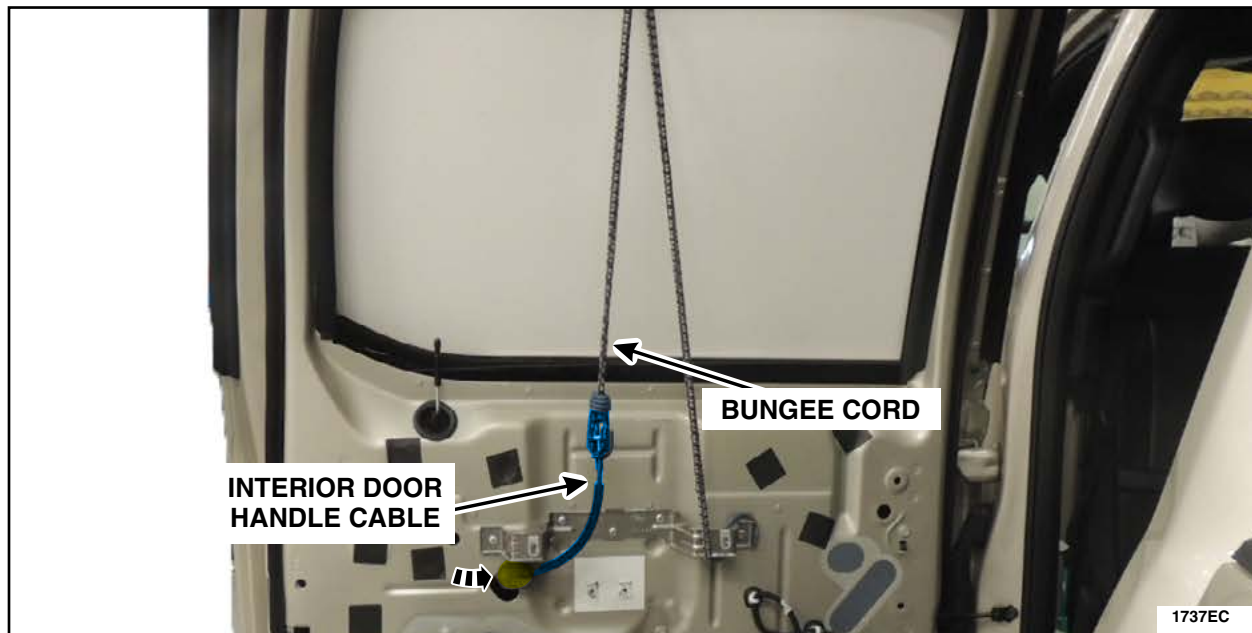

FIGURE 27
12. Using a bungee cord or other similar device, secure the interior door handle cable to the door in an upward position to allow the lubricant time to run down into the cable, until the interior door handle cable is reinstalled later in this procedure. See Figure 27.